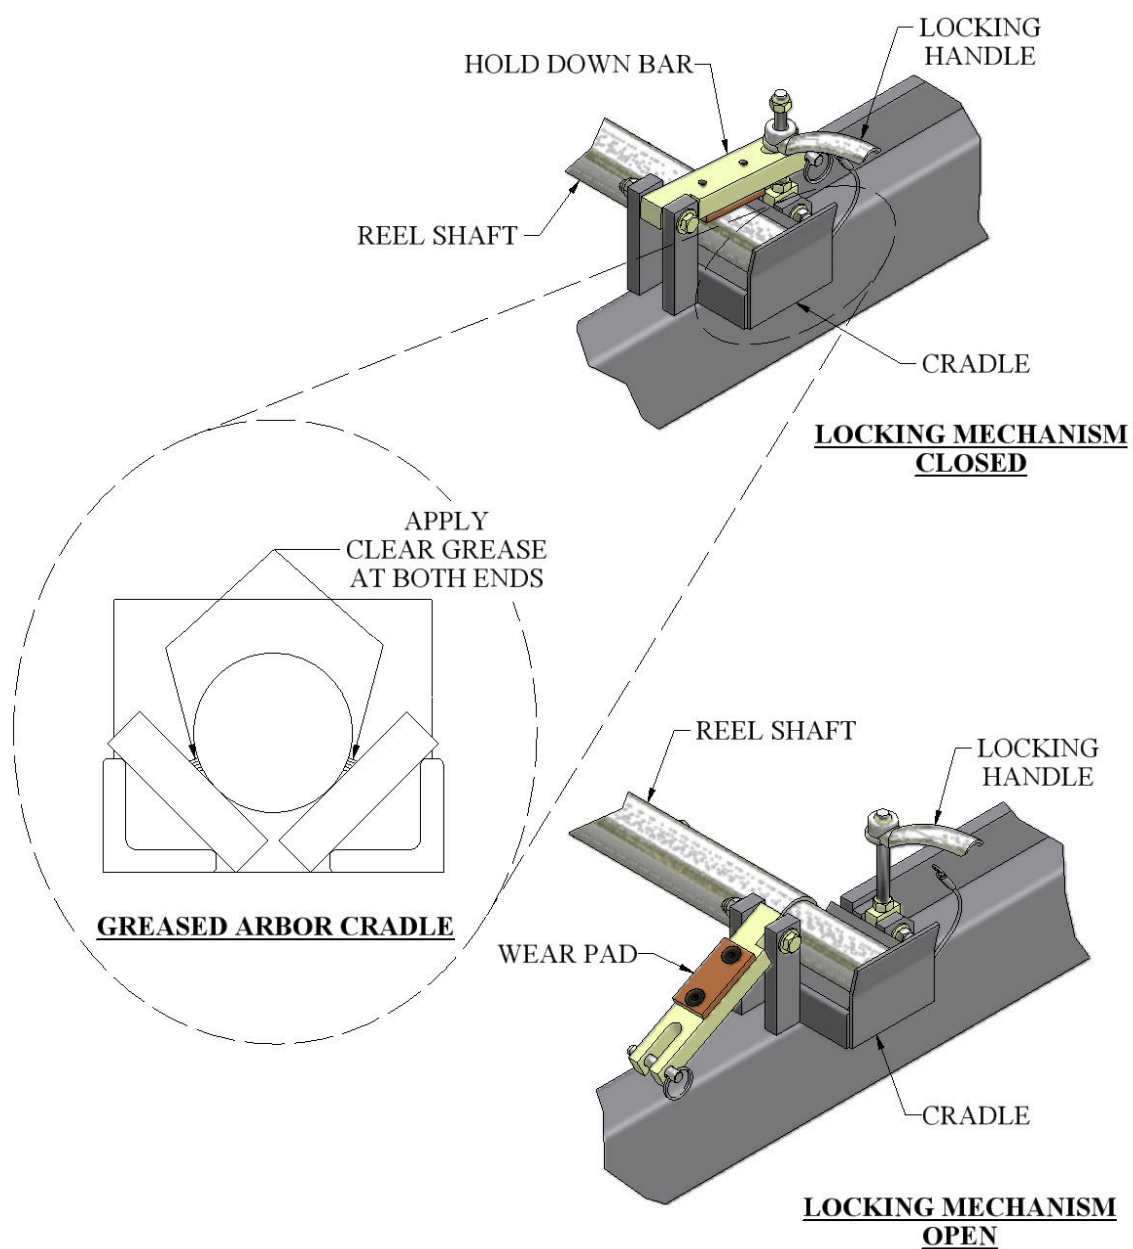

Figure 14: Expandable Reel Assembly
1. Prepare the reel stand by making sure the Hold Down Bars are in the unlocked and open Position (Figure 14).
3. Rotate the Hold Down Bars (Figure 14) to the closed position and thread the handle onto the hold down bolt. If material is going to be used from this coil, tighten the left and right handle just snug. Final adjustment of tension should be made while running a panel to keep reel from unwinding material too fast. As the coil becomes smaller, re-adjustment will need to be made. **Caution: Do Not over tighten Hold Down Bars. Drive and/or electrical system failure may occur.**